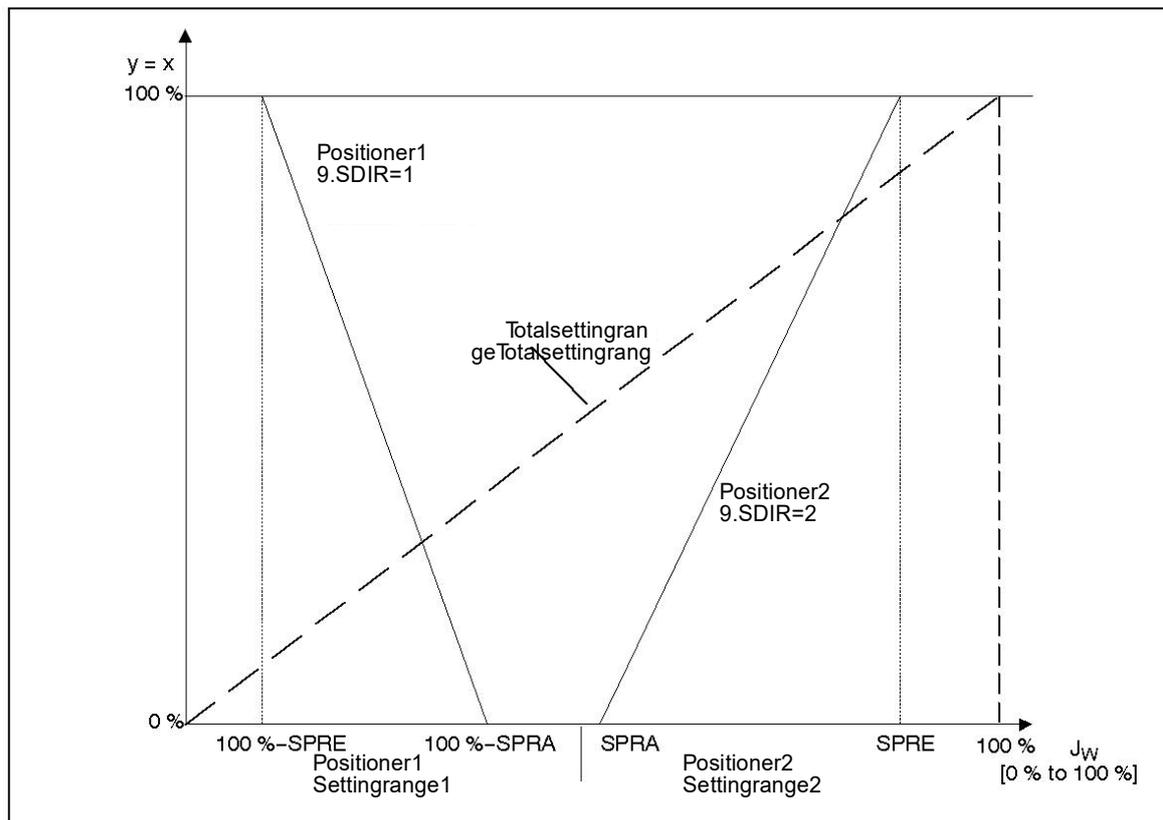

Fig.6-1 Split range-operation with two positioners
9) **SDIR** Setpoint direction (see Fig.6-1)
10) **SPRA** Split range start (see Fig.6-1)
11) **SPRE** Split range end (see Fig.6-1)